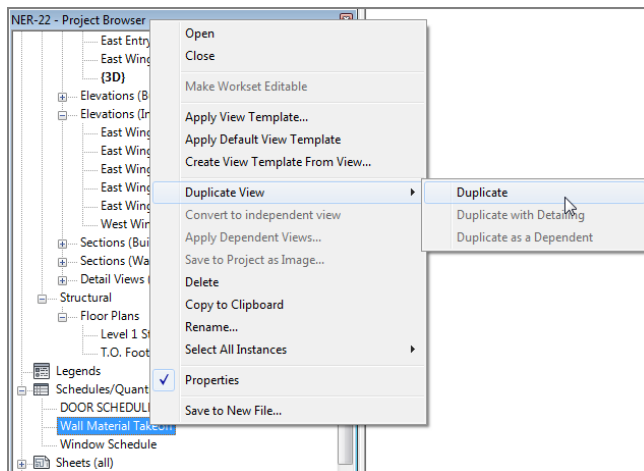

FIGURE 11.31: Duplicating the schedule
1. In the Project Browser, right-click Wall Material Takeoff, and select Duplicate View > Duplicate, as shown in Figure 11.31.